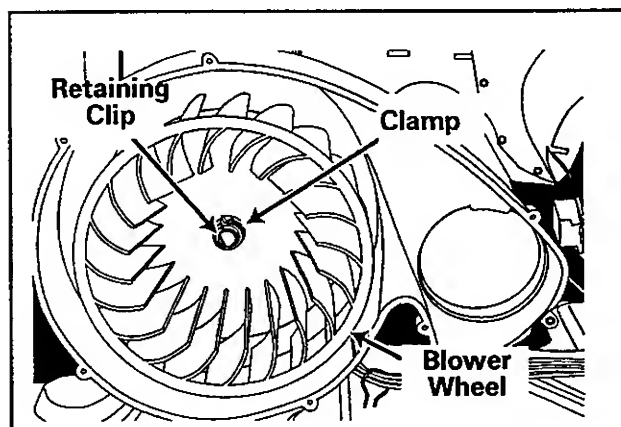

Figure 11-5
The blower wheel is attached directly to the motor shaft behind the blower cover. When replacing a blower wheel, always replace the clamp (*Figure 11-5*).
5. Remove clip retaining ring (*Figure 11-5*).